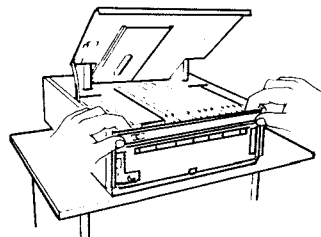

Fig. 41
Step 21 — Slide module back into position. Lift up slightly on module to seat in position (Fig. 41).